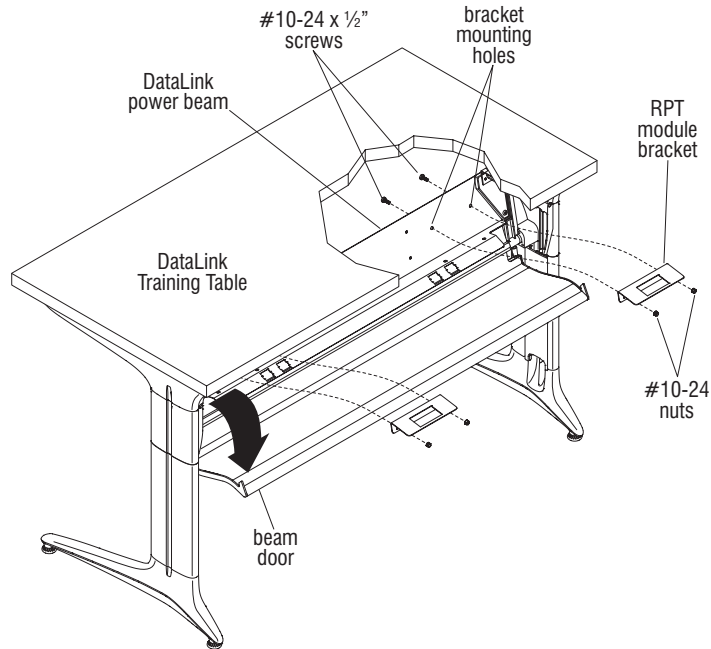

Figure 1 - DataLink Training Table
1. Open the beam door at the rear of the table to expose the power beam and locate the two RPT module bracket mounting hole locations, one pair at each end of the beam as illustrated (Figure 1).
2. Position the RPT module bracket up to the power beam as illustrated and use the #10-24 screws and nuts provided to secure the bracket to the beam (Figure 1).